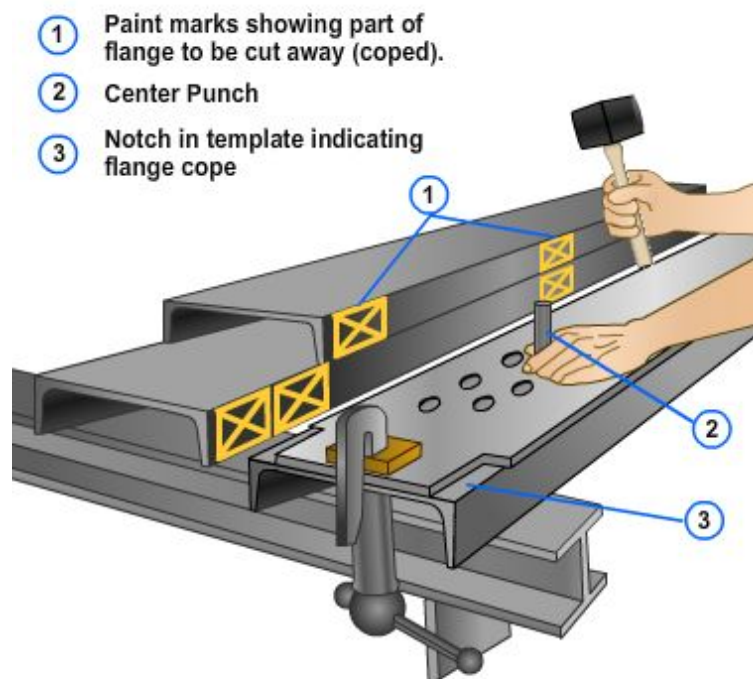

Figure 2-16 — Use of template in laying out a steel channel.
2. Center punch the holes directly through the holes in the template (*Figure 2-16*).